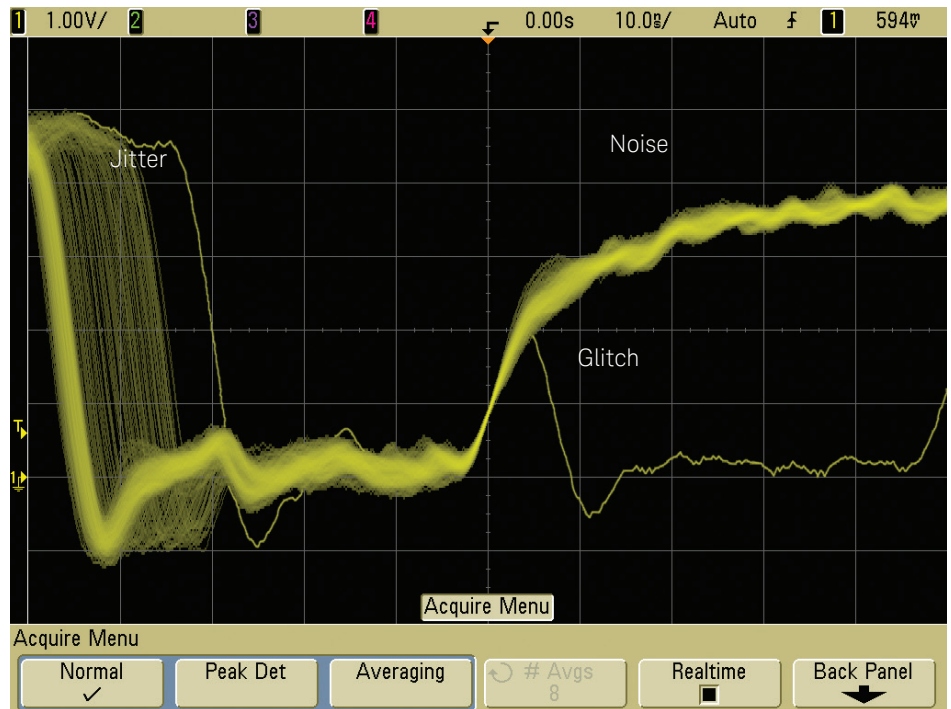

Figure 8. Display intensity gradation shows characteristics of jitter, noise, and signal anomalies on a Keysight InfiniiVision Series oscilloscope.
Figure 8 shows an example of a digital signal that includes timing jitter (near the left side of screen), vertical noise (top and bottom of waveform), and a very infrequent glitch (near the center of screen). Because of the relative dimness of the displayed glitch, we know that this particular glitch occurs very infrequently. We can also see that the nature of the jitter is very complex and probably includes a large component of deterministic jitter (DJ). If the dispersion of display intensity on the signal's edge appeared to be Gaussian in distribution, we would suspect that the jitter might be dominated by random jitter (RJ). For a more in-depth discussion on the different types of jitter, refer to application note, "Jitter Analysis," listed at the end of this document.